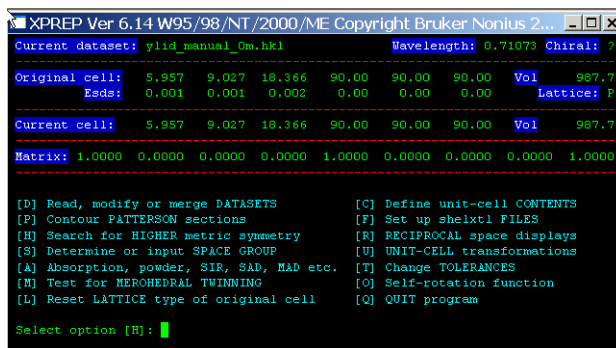

Figure 8.3 - Reduced cell
2. XPREP determines the reduced cell based on the lattice entered above. Since the lattice was primitive and the magnitudes of the cell dimensions were proper ( $a < b < c$ ), the original and reduced cells are the same (see Figure 8.3). Press Enter to search for a higher symmetry cell.
7. XPREP evaluates the data and looks at the systematic absences for all possible glide planes and screw axes (see Figure 8.3). These are displayed across the middle of the figure. By examining the number of reflections with  $I > 3\sigma(I)$ , the mean intensities, and the mean  $\text{int}/\sigma$ , which should all be very small for a systematic absence, XPREP derives a suggested space group,  $P2(1)2(1)2(1)$ . Press Enter to accept.